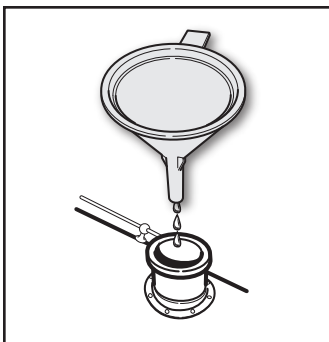
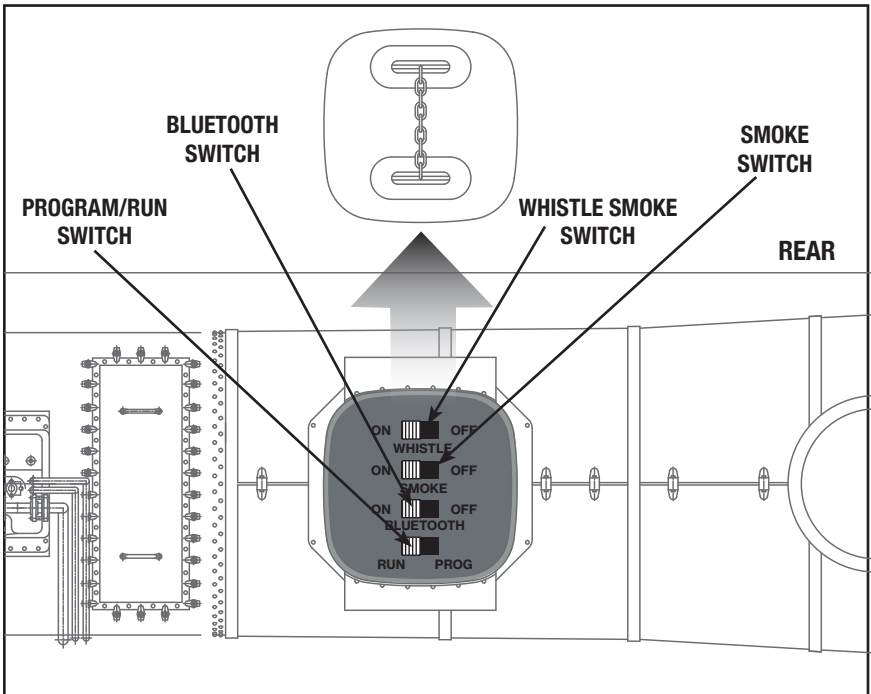

Figure 4a. Stack smoke fluid location
Figure 5. Locomotive switch locations
Refer to Figures 4a and 4b as you add the smoke fluid. If you prefer to operate your Legacy Steam Locomotive without smoke, locate the smoke unit switches under the steam dome and slide them to the OFF position. Refer to Figure 5 on page 9 for the location of the switches.
The functions of your Legacy Steam Locomotive's switches are outlined below. Refer to Figure 5 for the location of the switches. *The instructions below are specific to this particular locomotive; note that available features (and switches) may differ from other locomotives and sets.*
1. Slide the program run switch on your locomotive to the PROG position. See Figure 5 on page 9.